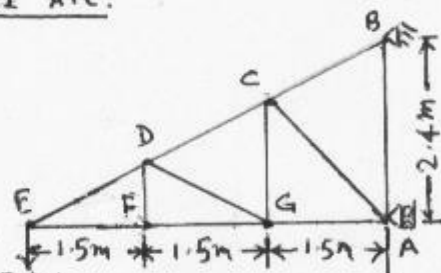

fig 3 Q 2(b) 2nd Alt.
- (b) For a plane truss shown in **fig. 3**, 03